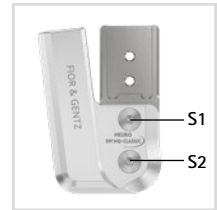

fig. 15
- 5 Screw in the second countersunk flat head screw (axle screw, S2; fig. 15).
- 1 Loosen the screws for the cover plate (fig. 15) after checking the free movement and remove them from the cover plate.
- 3 Secure the screws for the cover plate (fig. 15) with the torque corresponding to the system width.